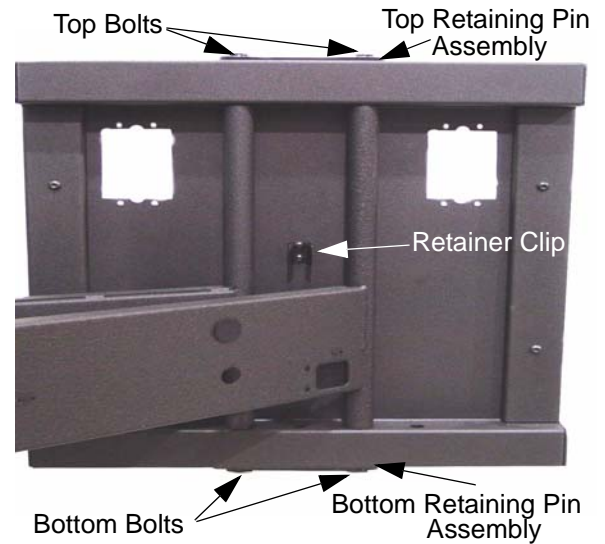

Figure 8. Swing Arm Adjustment
2. Remove two screws securing retainer clip and remove retainer clip (see Figure 8).